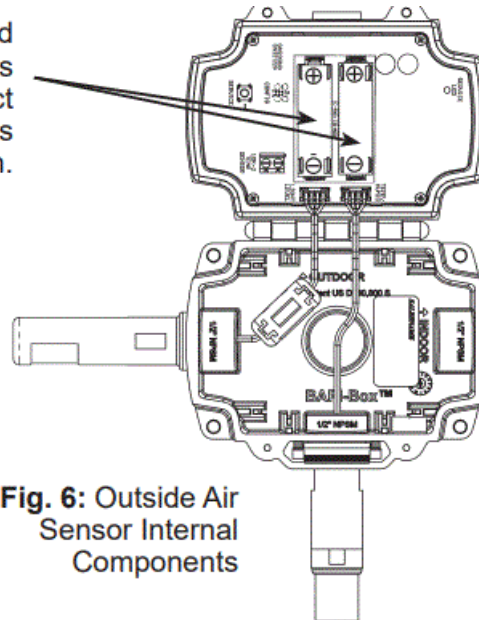

Fig. 6: Outside Air Sensor Internal Components
- Open the cover to access the batteries (Fig 6).